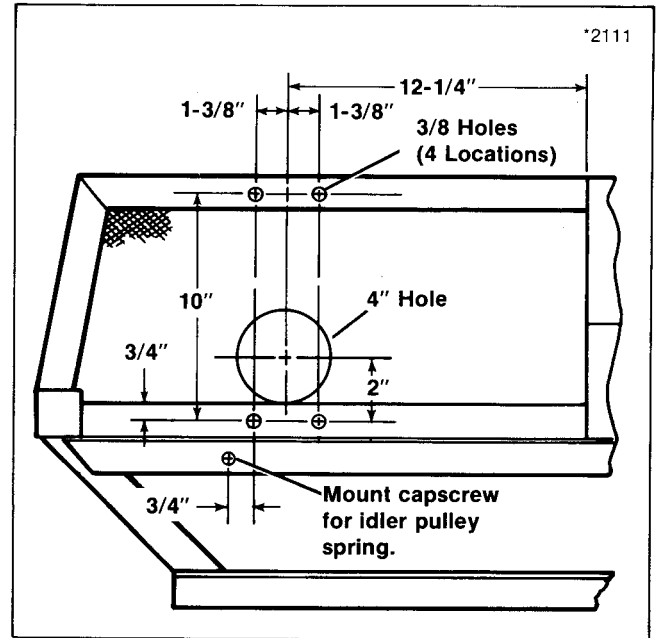

Figure 1. Drilling Template
1. To install grass collector, four 3/8" holes must be drilled in the frame on the right side and a 4" hole must be cut in the screen. Refer to figure 1 for correct dimensions. Measure and drill the bottom set of holes first and then measure the top set of holes.
3. Install 3/8-16 x 1-3/4" bolt inside the engine compartment through the bottom hole on frame (see figure 1). Secure with two nuts (one nut on each side of frame). Bolt head will be used to mount idler pulley spring (see step 9).